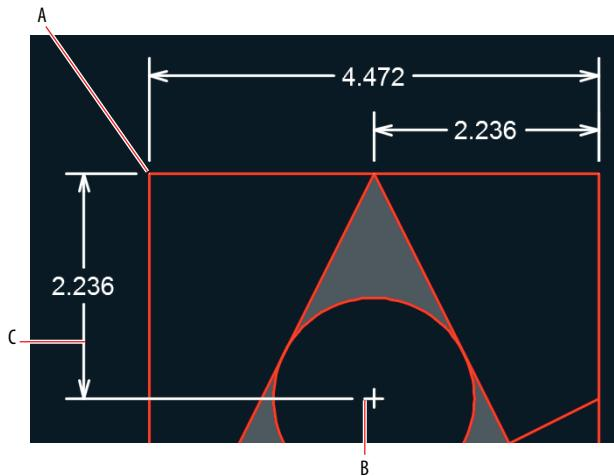

FIGURE 11.14 Creating another linear dimension
5. Type **DLI** (the alias for the **DIMLINEAR** command), and press Enter. Click points A, B, and C shown in Figure 11.14.
6. Type **DIMCONT** (the alias for the **DIMCONTINUE** command), and press Enter. Click point A, shown in Figure 11.14, to add another linear dimension below the previous one. Press Esc to end the command.